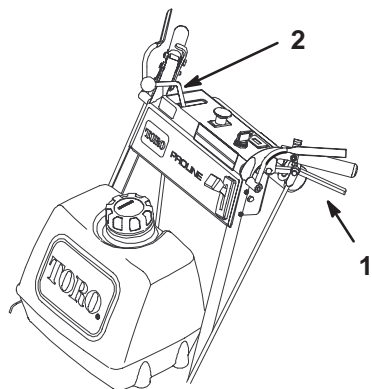

Figure 14
4. Slowly release the drive levers to move forward (Fig. 14).
To go straight, release drive levers equally (Fig. 14).
To turn, squeeze the drive lever on the side and direction you want to turn (Fig. 14).
2. Slowly squeeze the drive levers back to the grips together to move rearward (Fig. 14).